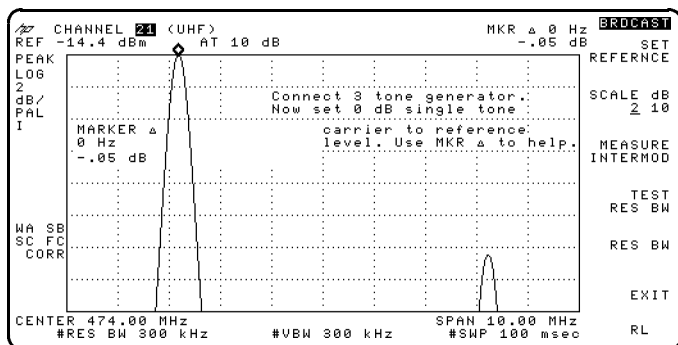

Figure 2-11. Setting the Reference
3. The reference level for the channel must first be set by pressing **SET REFERENCE**. The spectrum analyzer sets its reference level to peak-sync of the vision carrier (refer to Figure 2-11).